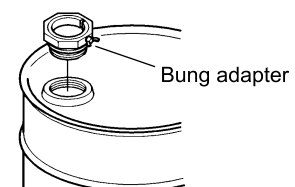

Fig. 3
- 3) Unplug the inlet port (2") of the drum can and screw in the bung adapter connected to the pump. (Fig. 3)